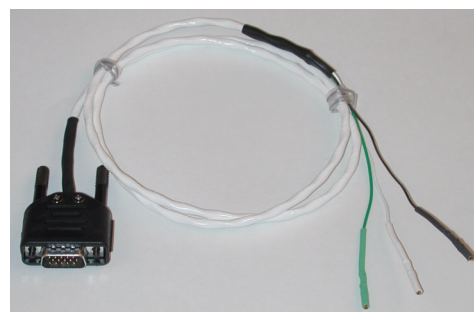

Figure NB-4-2: The C-DB15-P3 recording cable.
- 5 Locate the C-DB15-P3 input cable (Figure NB-4-2 on page NB-4-2) in the NBK/214 kit. Attach the DB15 connector on the end of the input cable to the DB-15 probe socket of the Model 3000 amplifier.